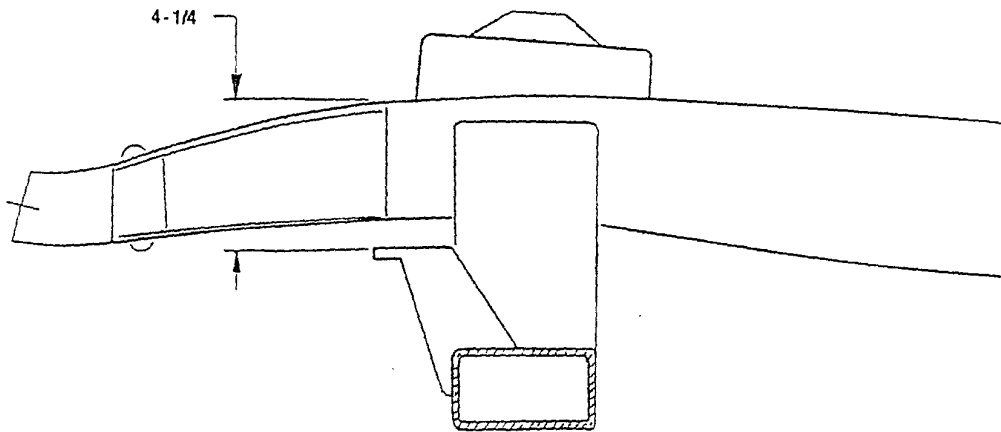

Figure 6
8. The radiator support is the last item. Center the support on the front of the crossmember and clamp or tack in place. Measure up from the top of the support to the top of the frame directly above the radiator perch, using a straight edge across the top of the frame rails. That dimension should measure 4-1/4, as shown in Figure 6. If it is too high and the dimension is less than 4-1/4, trim the base of the radiator support to bring it down to that dimension. Also check the clearance to the steering rack if any trimming is done to the radiator support. If the support is low, the radiator cradle assembly can be shimmed up to its correct position when it is bolted to the radiator support. Please note that this model car does not accept the power rack and pinion rack without serious modifications to the factory Ford geometry design, due to the much larger pinion housing and hydraulic lines. They interfere with the stock radiator cradle. Power steering is absolutely not recommended for this car even if it would fit. The light front end weight, compared to a Pinto, coupled with the extra ease of power steering, will cause you to lose the feel of the car on the highway.